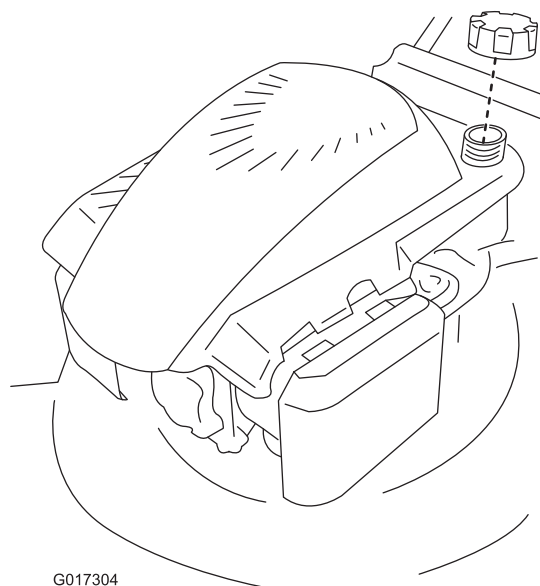
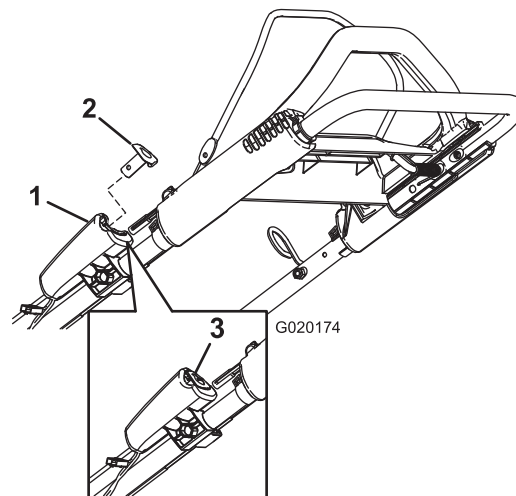

Figure 13
Figure 18
Fill the fuel tank with fresh unleaded regular gasoline from a major name-brand service station (Figure 13).
2. Push the electric-start button (Figure 18) (electric-start model only) or pull the recoil start handle (Figure 13).
Note: If the electric-start button has been removed, insert it in the electric starter; refer to Figure 18 (electric-start model only).